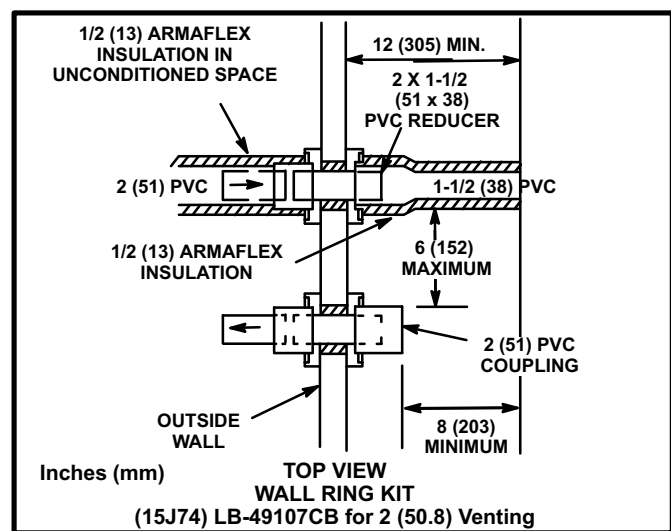

FIGURE 22
- 6 - On field supplied terminations for side wall exits, exhaust piping should extend a minimum of 12" (305mm) beyond the outside wall. Intake piping should be as short as possible. See figure 22.